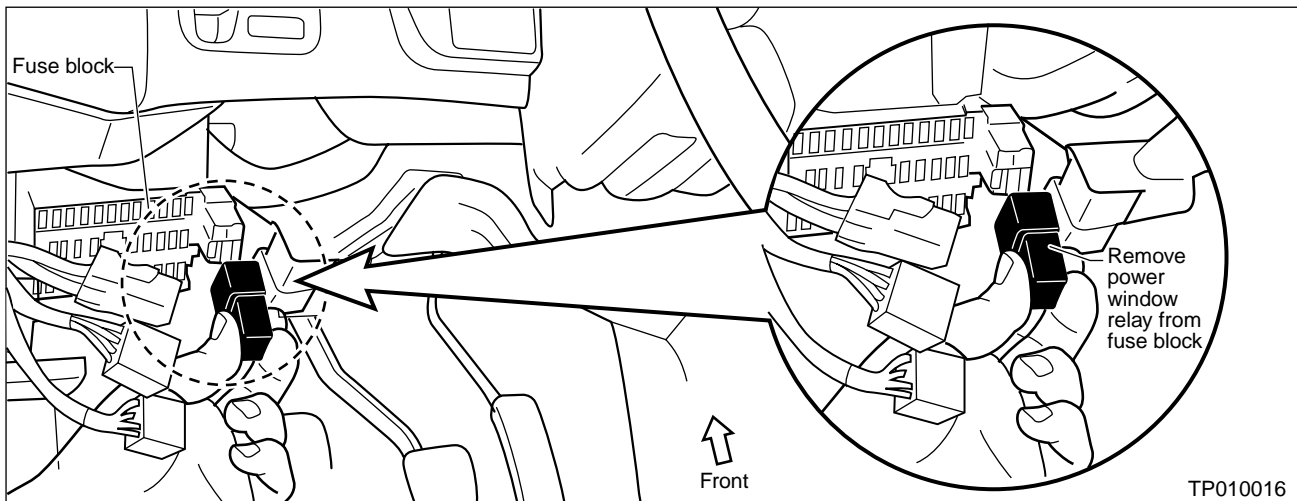

Figure 3
5. Remove the power window relay from the fuse block (see Figure 3).